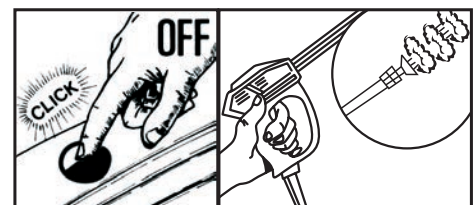

Fig.9
2. To stop the appliance press the **RED Power OFF** switch on the side of the pressure washer (**Fig.9**)